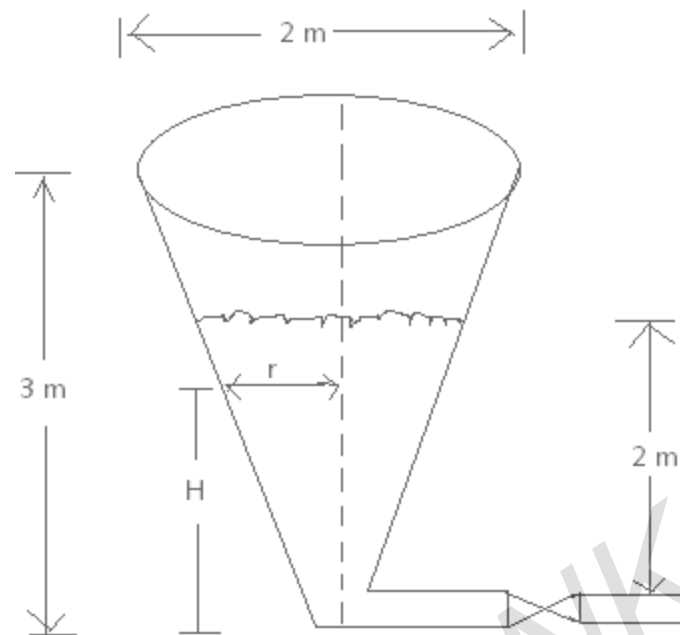

Figure 10:
5. Consider the conical water tank system shown below figure 10. The flow through the valve is related to the head  $H$  by  $Q = 0.005\sqrt{H}$ , where  $Q$  is the flow rate measured in  $m^3/\text{sec}$  and  $H$  is in meters. Suppose that head is 2 m at  $t=0$ , what will be the head at  $t=60$  sec? [16]